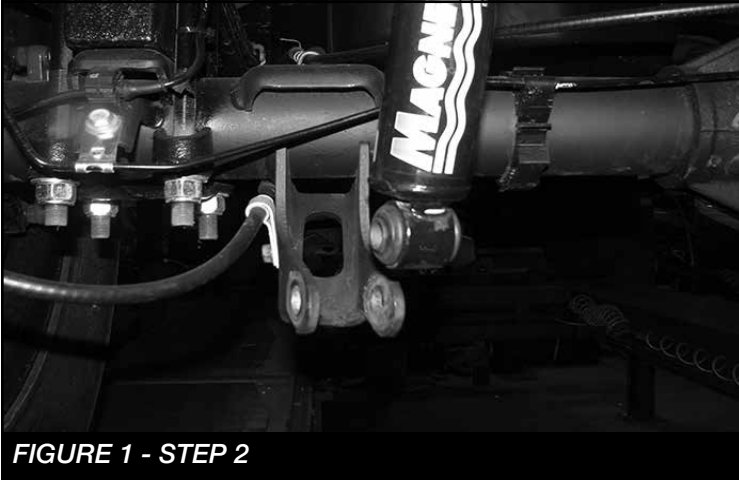

FIGURE 1 - STEP 2
2. Remove and save the rear lower shock bolt. **SEE FIGURE 1**